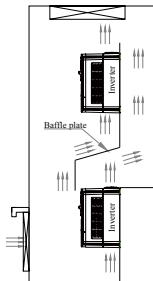

Fig. 3-2 Installation Diagram of Multiple Inverters
- (3) If multiple inverters are installed up to down, baffle plate shall be applied between them as shown in Fig. 3-2.